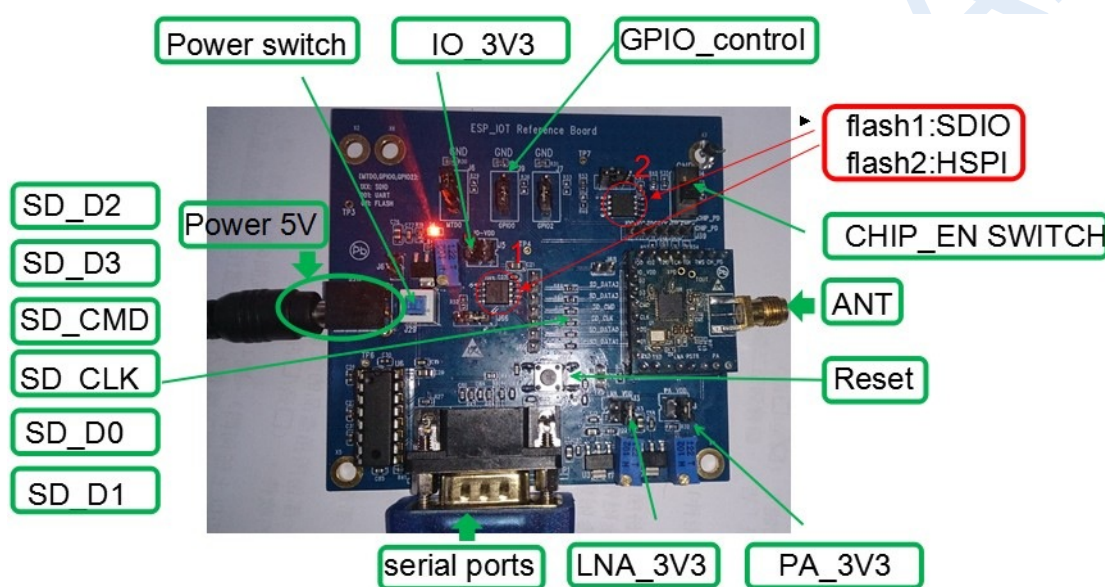

Figure 4: ESP8266EX Demo Board (Brief Outline)
1.3.1. UART Connector (as in Fig. 4 Demo Board)